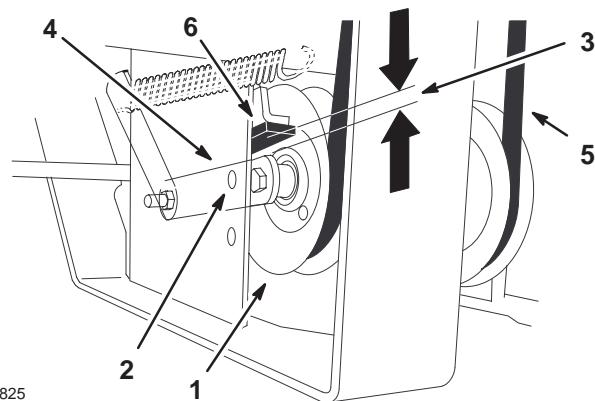

Figure 71
9. Check the distance from the rubber stop and the arm of the spring loaded idler pulley when the idler plate is tightened. It needs to be 0 to 1/4 inch (0 to 6 mm) from the rubber stop (Fig. 71).